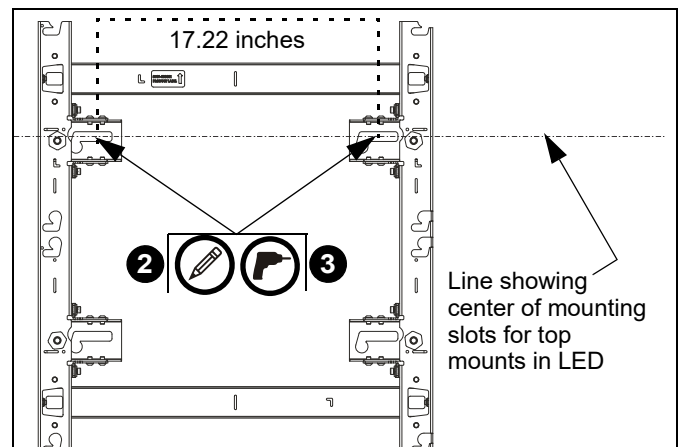

Figure 6
1. Hold furthest left, top wall mount against wall ensuring that mounting slot is lined up with center line marked on the wall in **Determining Installation Site** section. Double-check with a level. (See Figure 6)
2. Mark mounting holes in two top mounting slots along the horizontal line marked in Step 3. (See Figure 6)
NOTE: The mounting holes are 17.22" apart on-center. (See Figure 6)
3. Drill two pilot holes (see Table 1 for size) at each location marked in Step 2 (See Figure 6) and follow fastener information (appropriate for wall type) located in Table 1.
1. Hold additional wall mount against wall ensuring that mounting slot is lined up with center line marked on the wall in **Determining Installation Site** section. Double-check with a level. (See Figure 6)
2. Mark mounting holes in two top mounting slots along the horizontal line. (See Figure 6)
3. The mounting holes are 17.22" apart on-center. (See Figure 6)